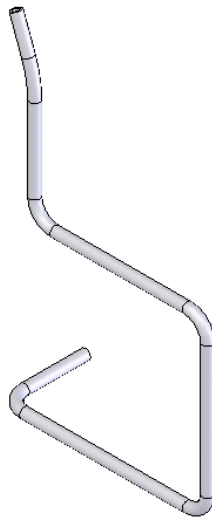

Figure 9-114 Sweep feature created by sweeping a profile along a 3D path
- c. Sweep the profile along the 3D path using the **Thin Feature** option, refer to Figure 9-114.
The model after creating the sweep feature is displayed in Figure 9-114.